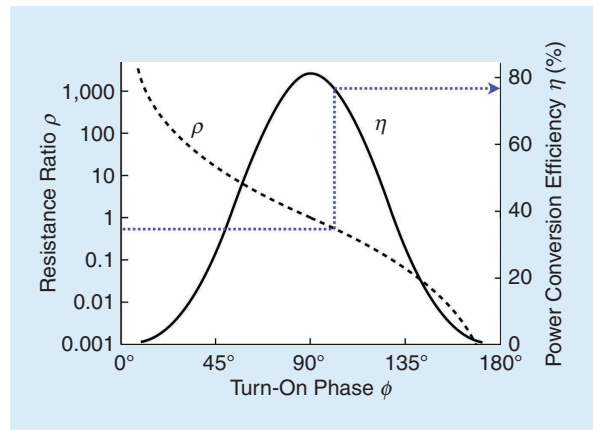

Figure 2. The arrowed crank guides us to the power conversion efficiency.
Although (6) lets us explicitly find η from ϕ , the transcendent equation (7) cannot be solved algebraically for ϕ . We therefore take a graphical approach instead. In Figure 2, (6) and (7) are projected onto a plane with common abscissa. This chart enables us to quickly find η from a given ρ by way of ϕ . For example,